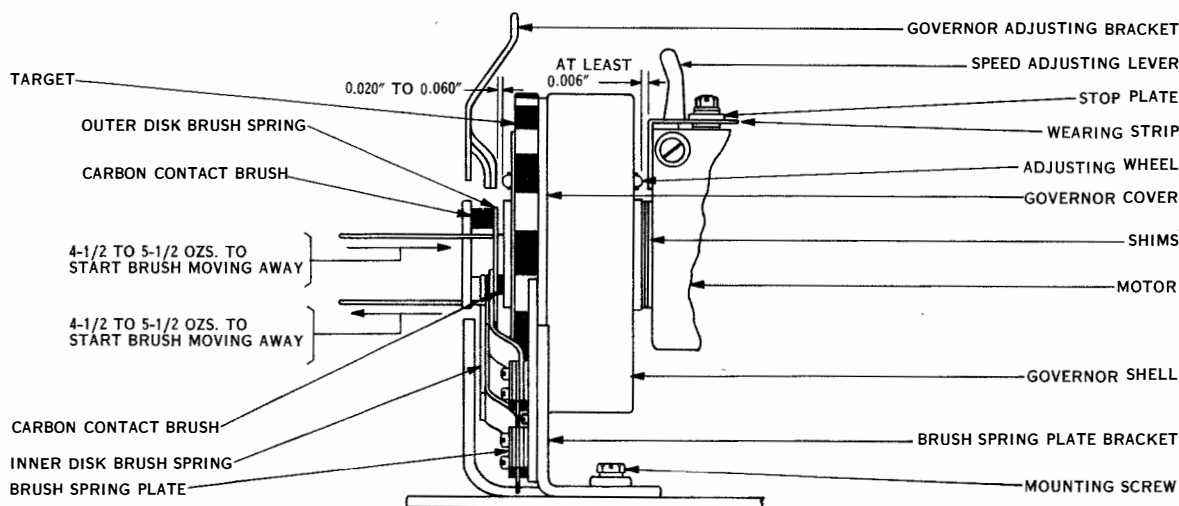

Figure 7-11. Speed Adjusting Lever Stop Plate, Wearing Strip, and Governor Brush Springs
(5) SPEED ADJUSTING LEVER STOP PLATE. (See figure 7-11.)—There should be 0.006-inch to 0.050-inch clearance between the adjusting lever wearing strip and the governor shell when the speed adjusting lever is held against the stop plate. To adjust, position the adjusting lever stop plate with its mounting screws loosened.
(6) ADJUSTING LEVER WEARING STRIP. (See figure 7-11.)—There should be at least 0.006-inch clearance between the adjusting lever wearing strip and the adjusting wheel when the adjusting wheel is
(9) **GOVERNOR BRUSH SPRINGS.** (See figure 7-11.)—It should require a tension of 4½ to 5½ ounces to start the inner disk brush moving away from the disk. To check, hook an eight ounce scale over the inner disk brush spring next to the brush and pull horizontally, noting the tension as the brush starts to move. To adjust, remove and bend the brush springs.
(10) **GOVERNOR ADJUSTING BRACKET.** (See figure 7-11.)—There should be 0.020-inch to 0.060-inch clearance between the speed adjusting wheel and the governor adjusting bracket. To adjust, bend the governor adjusting bracket.